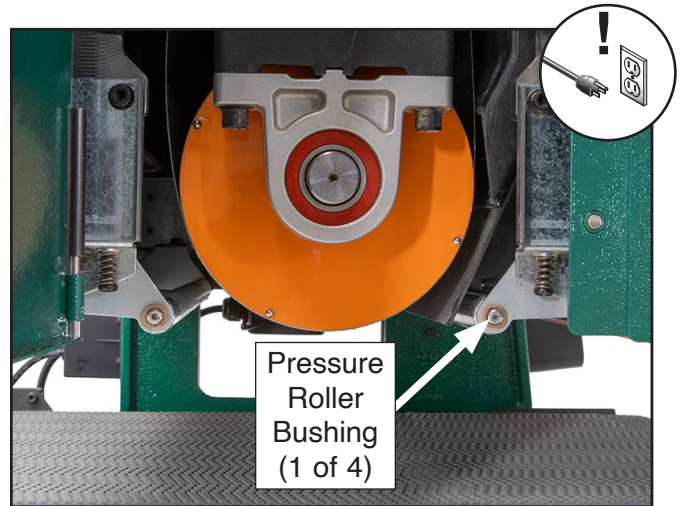
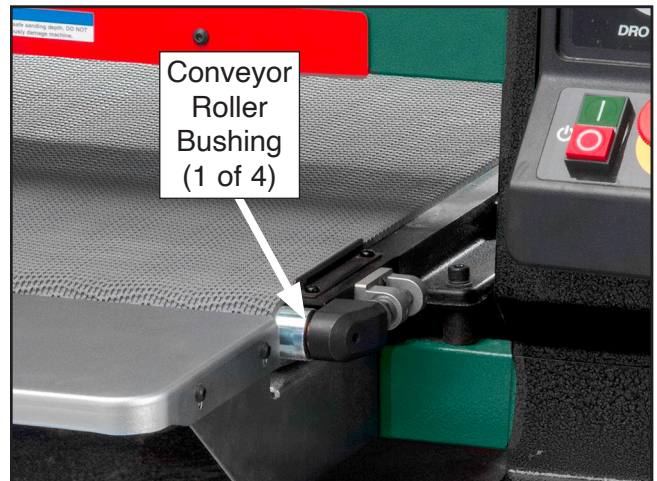

Figure 33. Location of pressure roller bushings.
Figure 34. Location of conveyor roller bushings.
3. Add 2-3 drops of lubricant to conveyor and pressure roller bushings (see Figure 33–Figure 34).